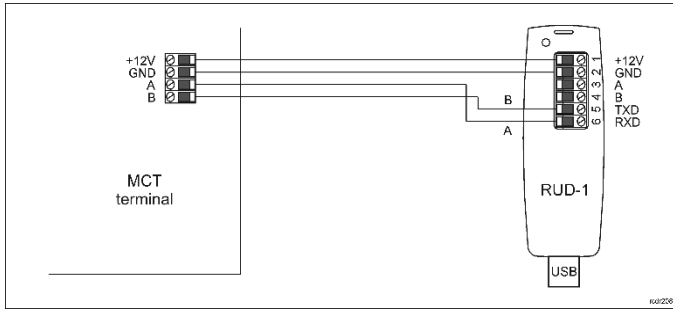

Fig. 2 Connection of MCT reader to RUD-1 interface for firmware update
The firmware of device can be changed to newer or older version. The update requires connection to computer with RUD-1 interface (fig. 2) and starting RogerVDM software. The latest firmware file is available at [www.roger.pl](http://www.roger.pl).
1. Connect the reader to RUD-1 interface (fig. 2) and connect the RUD-1 to computer's USB port.